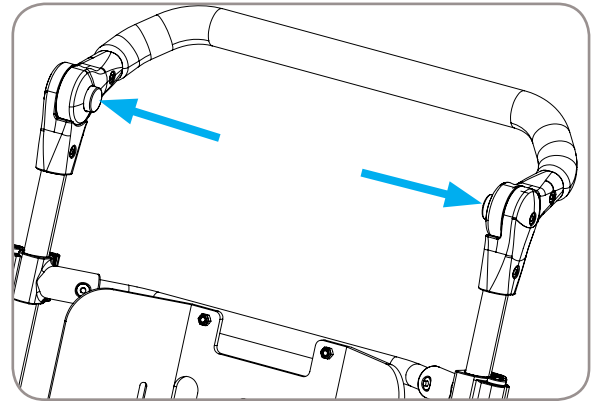

Figure 4
1. Press and hold buttons with thumbs on inside of each adjustment ratchet, reference Figure 4.